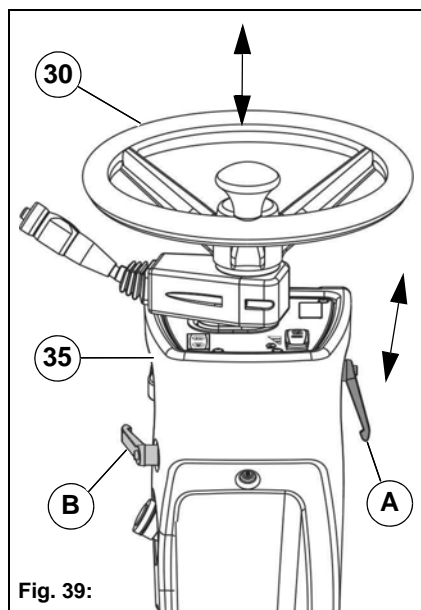

Fig. 39:
- Turn the lever **Fig. 39-A** counter-clockwise until the steering column is unlocked.
- Turn the lever **Fig. 39-B** counter-clockwise until the steering wheel is unlocked.